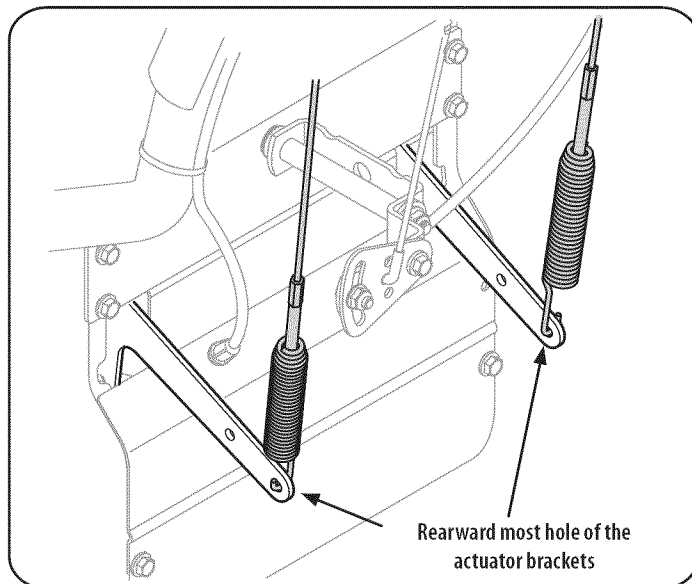

Figure 14
1. From beneath the handle, pull downward on the appropriate cable and unhook the spring found on the end of the cable from its respective actuator bracket. Refer to Figure 14.